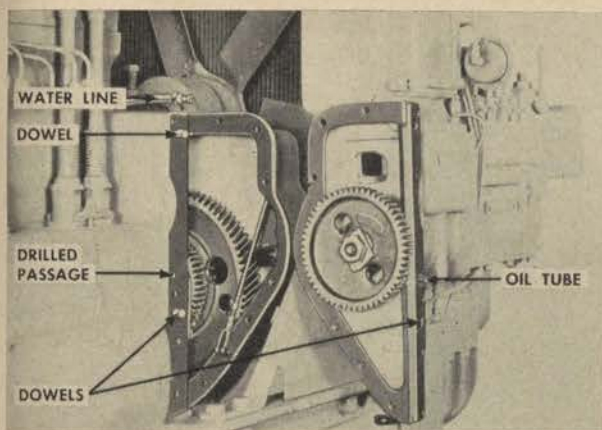

Figure 154. Accessory drive shaft housing removed.
2. Remove the oil tubes (5) between the oil filter base and the oil cooler.
3. Remove the water line (3, fig. 153) between the water manifold and the fuel filter housing, and the water line between the fuel filter housing and the elbow on the water pump. (See fig. 154.)
4. Take off the rectangular cover beneath the fuel filter housing and disconnect the fuel injection pump slide bar from the governor yoke by removing the pin and cotter pin. If the head of the pin is facing in toward the side of the engine, its removal will be restricted. If this condition is present, loosen the locknut (7), and disconnect the other end of the slide bar (4) from the link (6). Rotate the slide bar so that the yoke (7) is turned one-fourth revolution to face the head of the pin "up" for removal. Lock the nut on the yoke (7).
6. Due to the dowels (fig. 154), the unit must be moved away from the engine about $\frac{1}{2}$ inch distance before it can be brought around and removed.
7. A drilled passage in the cylinder block (fig. 154) conducts oil from the front camshaft bearing to the tube and drilled passage in the accessory shaft housing. This oil passage provides pressure lubrication for the accessory shaft bearing in which a hole is drilled to line up with the oil passage.